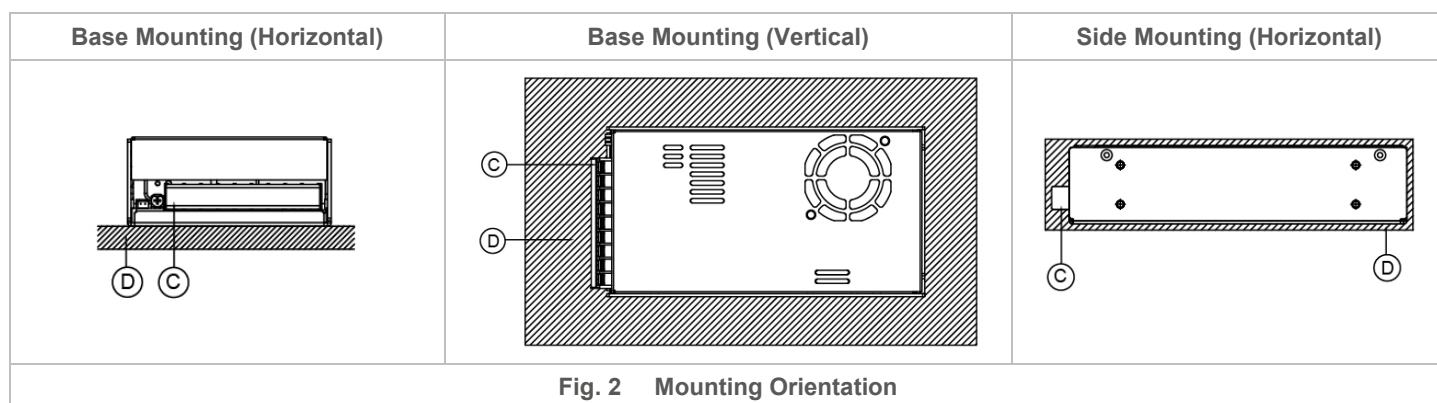

Fig. 2 Mounting Orientation
- Ⓐ Side Mounting: Fig. 2 and Fig. 3 show the mounting hole locations for power supply assembly onto a metal mounting surface. The power supply shall be mounted on minimum of 4 mounting holes using M4 screw of maximum 5 mm (0.20 inch) length (Refer to Fig. 4). This is to maintain a safety distance between the screw and internal components.
- Ⓑ Base Mounting: Fig. 2 and Fig. 3 show the mounting hole locations for power supply assembly onto a metal mounting surface. The power supply shall be mounted on minimum of 4 mounting holes using M4 screw of maximum 4 mm (0.16 inch) length (Refer to Fig. 4). This is to maintain a safety distance between the screw and internal components.